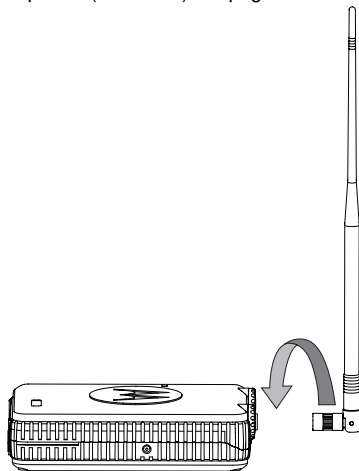

Figure 9. Attaching Dipole Antenna to the Repeater (clockwise)
1. Align the threaded end of the antenna with the repeater's antenna connector and turn the antenna bushing clockwise to fasten it. "Figure 9. Attaching Dipole Antenna to the Repeater (clockwise)" on page 20.